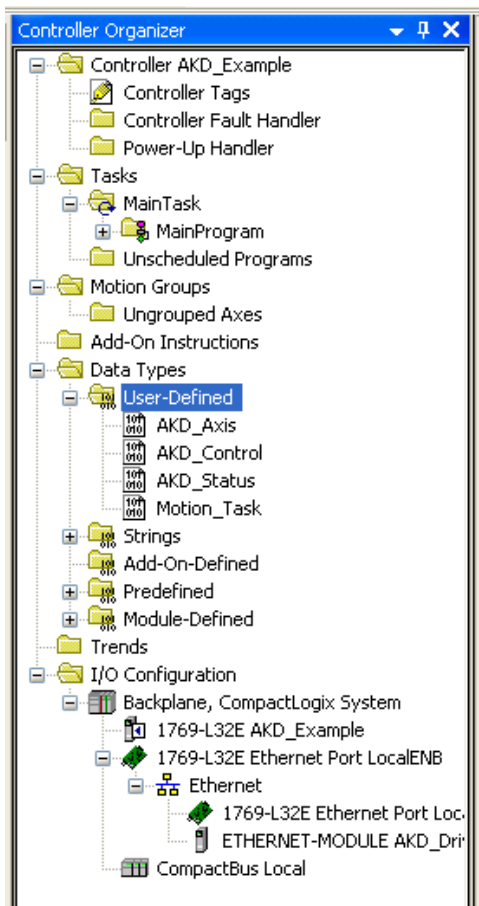

Figure 4-8: Data Types Successfully Imported
- The data types should now show up under the “Data Types > User-Defined” folder (Figure 4-8: Data Types Successfully Imported)